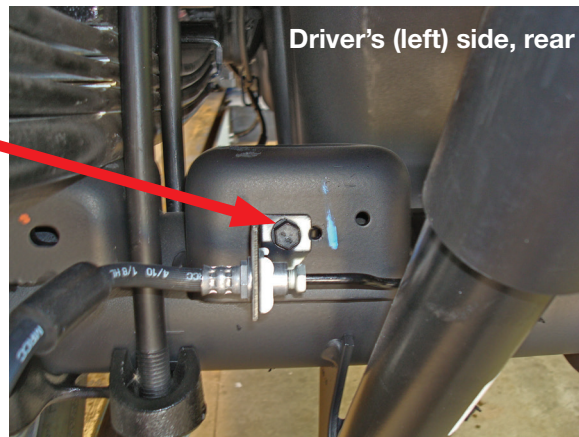

fig. 6
4. Remove the three bolts that hold the brake line and emergency brake cable brackets to the jounce bumper strike plates, forward and behind the rear axle (Figs. 6 & 7).